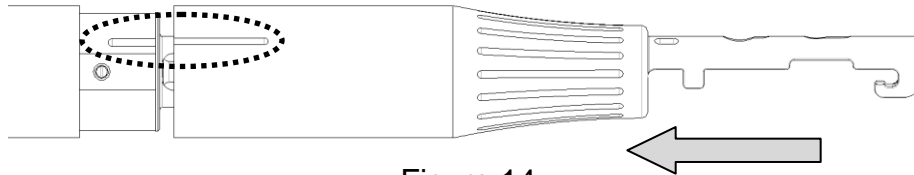

Figure 14
8. After sterilization, allow the components to cool and re-attach the nosecone on to the IOL Injector Handpiece by first aligning both index lines shown in figure 14, then slide the nosecone onto the IOL Injector Handpiece and rotate the nosecone clock-wise until tightened. After installation, verify the orientation of the nosecone with respect to the cable (see figure 5).